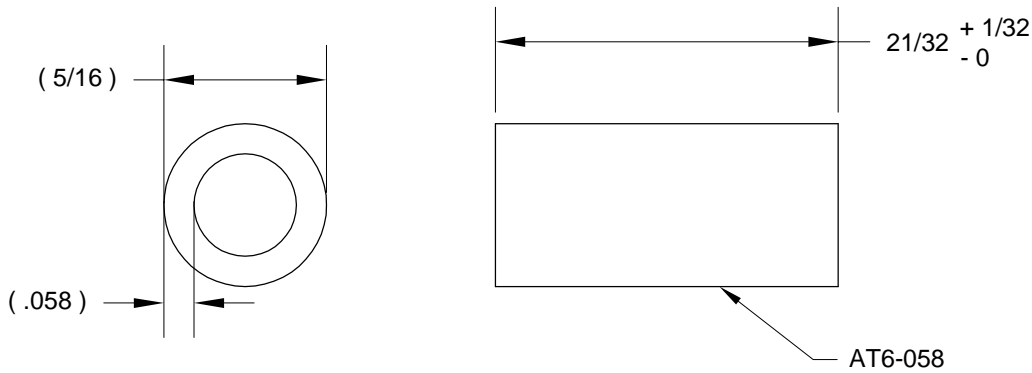

FIGURE 1:
Step 1: Cut the 5/16 aluminum tube to make four HS-1210 Hinge Stops per dimensions in Figure 1.